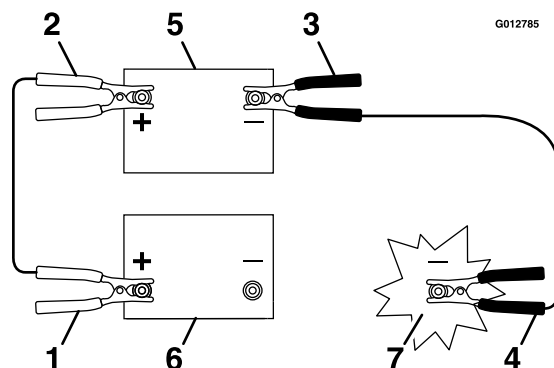

Figure 43
1. Connect the positive jumper cable—red (+) to the positive-battery terminal of the discharged battery as shown in Figure 43.
2. Connect the other end of the positive cable to the positive-battery terminal of the booster battery (Figure 43).
4. At the machine with a discharged battery, connect the other end of the negative jumper cable to the engine block, at a location away from the battery and belts (Figure 43).
2. Remove the negative cable from the engine block (Figure 43).
3. Remove the negative cable from the discharged battery (Figure 43).
4. Remove the positive cable from the booster battery (Figure 43)
5. Remove the positive cable from the discharged battery (Figure 43)